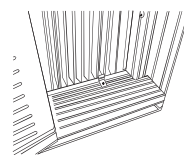
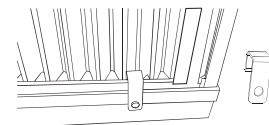

Fig.7A
Fig.7B
A. Place the frame lock between the frame extensions and the window sill as shown (Fig.7A for Wooden windows), (Fig.7B for Vinyl-Clad windows).